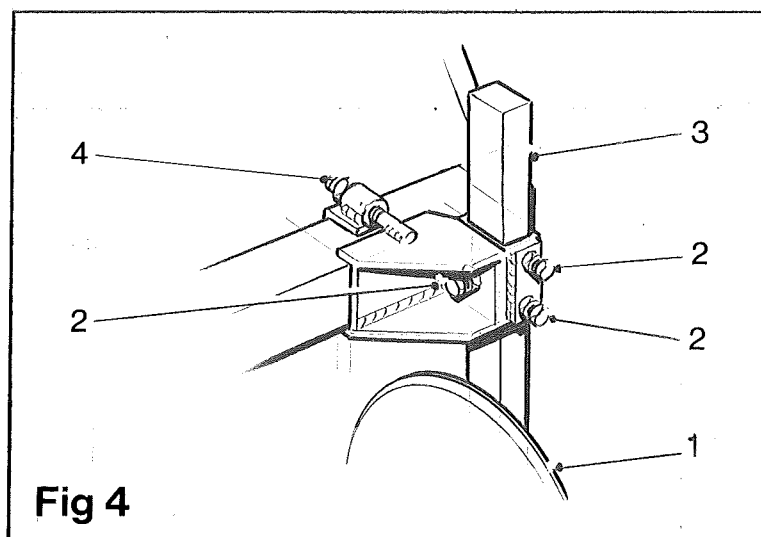

Fig 4
The disc coulters (item 1, fig 4) can be adjusted vertically and horizontally. Ensure that the disc coulters do not come into contact with the tractor tyres.
To adjust the disc coulters vertically, loosen the three set screws (item 2, fig 4) and slide the disc arm (item 3, fig 4) to the new position. Re-secure the disc arm by tightening the set screws (item 2, fig 4). To adjust disc coulters horizontally, loosen the clamp nuts (item 4, fig 4) and slide the complete disc coulters unit to the new position. Re-tighten the clamp nuts (item 4, fig 4).